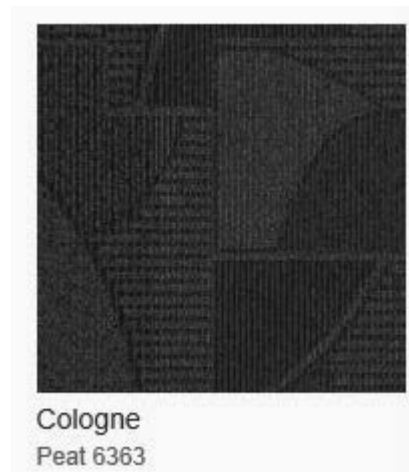

FIGURE 4-3.5
11. Find color **6363 (Peat)** as shown in Figure 4-3.5; click on it to see more details.